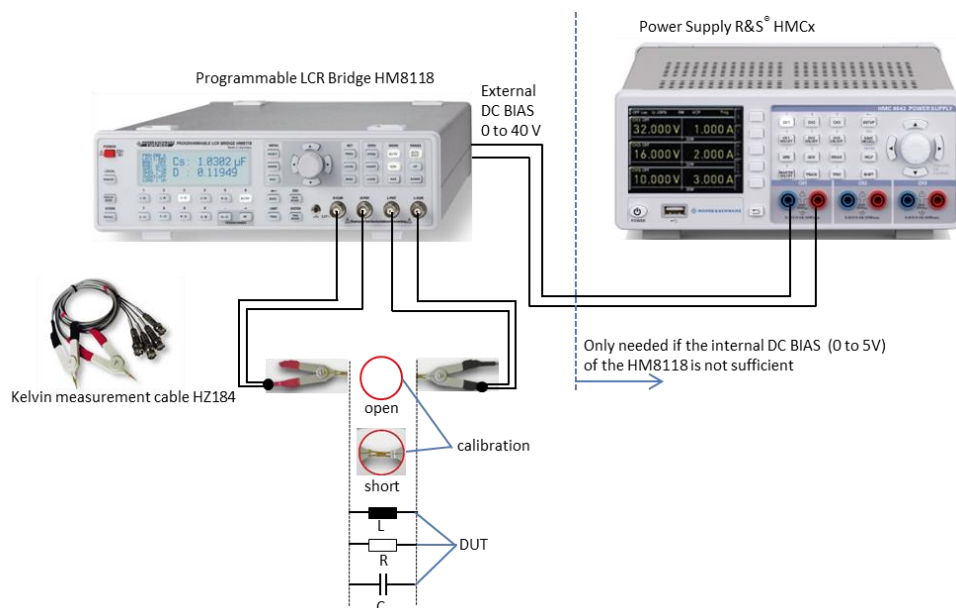

Fig. 2-1: Component measurement using the HM8118 LCR bridge.
- Connect the capacitor between the red (+) and black (–) terminals of HZ184 (Fig. 2-1). **Important: You must check the polarity on unipolar capacitors!**
- Note: Electrolytic and tantalum capacitors require a bias voltage for a correct measurement. This should be high enough that no polarity reversal occurs when an AC voltage is applied, or else it should ideally be equivalent to the DC value in the actual circuit. Press the *BIAS* key and then use the rotary knob to set the required bias voltage (pressing the *BIAS* key a second time will switch the bias voltage off again). The set DC voltage is then superimposed on the measured AC voltage. The internal bias voltage can be a maximum of 5 V and is set in 10 mV increments. If this supply voltage is not sufficient, an external power source is used to supply a DC bias voltage of up to 40 V (Fig. 2-1). The constant voltage (CST V) must be switched on for this purpose. Press the *SELECT* key and use the rotary knob to select *SETUP* in the menu. Press the rotary knob to enable *CST V* and then use the rotary knob to set *ON*. Press the *ESC* key.
- Connect the coil between the red (+) and black (-) terminals of HZ184 (Fig. 2-1).
- Connect the resistor between the red (+) and black (–) terminals of HZ184 (Fig. 2-1).